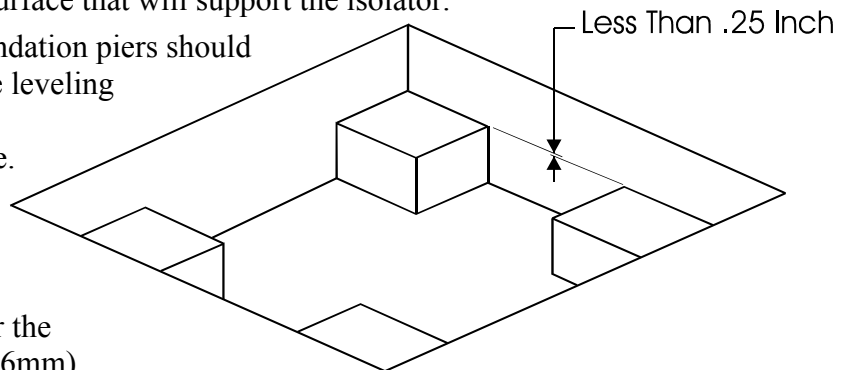

FIGURE 2
- 3) The difference in elevation between foundation piers should not exceed 0.25 inch (See Figure 2). The leveling feature in Vibro/Dynamics Isolators will compensate for any remaining difference.